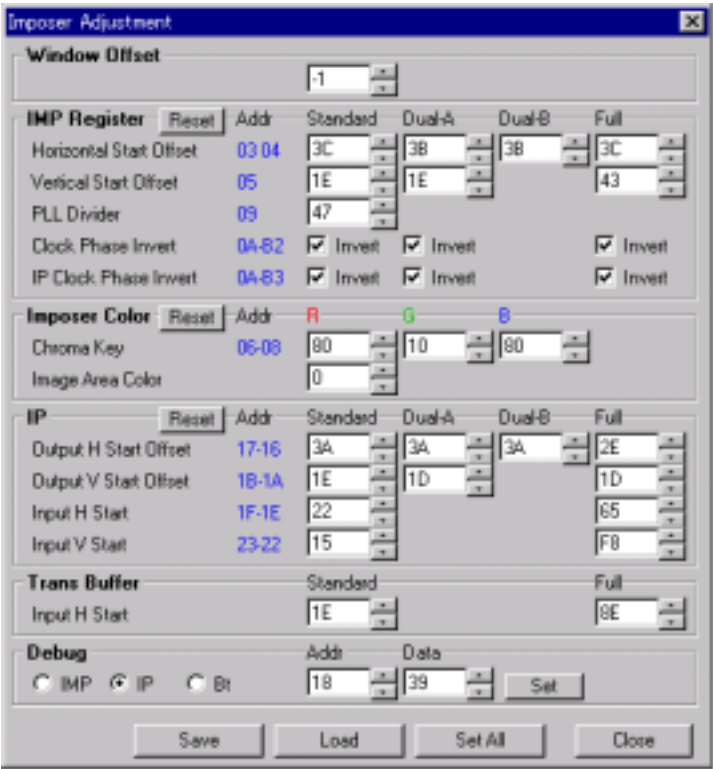

Figure 5-14: Imposer Adjustment Screen
2. Turn the reference voltage-tuning knob, VR2, for the chroma key detection comparator in the screen display area to bring up a SEM image in the image display area. Turning the VR2 right and left causes a noise to appear. Set the VR to an intermediate value. If a SEM image does not appear, open the adjustment window for the Superimposer, and temporarily set the chroma key to R=80, G=10, B = 80 (**Figure 5-14**).